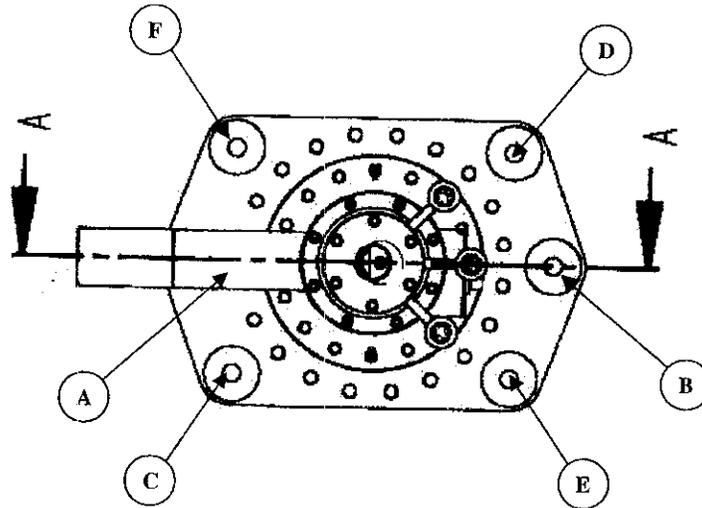

Figure 1.32.2 The specified sequence for tightening the Belleville washer assemblies.
1.32.2 Tighten the 6 loading nuts finger-tight. With adjustable parallels, measure and record the gap 'y' indicated in Figure 1.31a between Item 5 (Belleville washer holder upper half) and the power lead top flange at the 6 locations specified in Figure 1.32.2. Units are mm.
1.32.4 Using the sequence A through F in Figure 1.32.2, sequentially tighten the loading nuts ¼ turn until the total compression is 1.8 mm at each of the six locations. As each loading nut is tightened ¼ turn, check off the appropriate line.